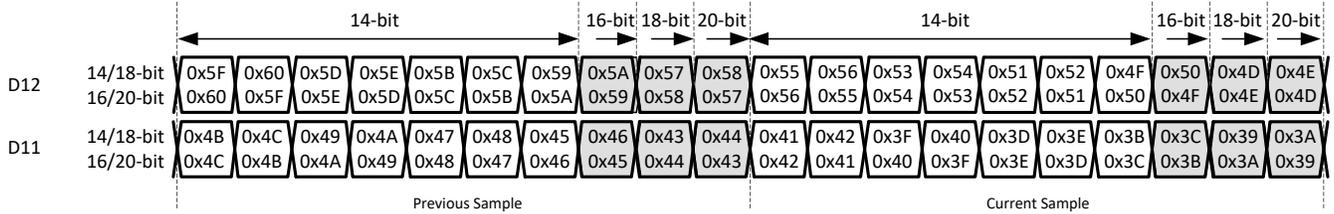

Figure 8-45. 2-wire output bit mapper
**2-wire mode:** in this mode both the current and the previous sample have to be used in the address space as shown in Figure 8-45 below. The address order is different for 14/18-bit and 16/20-bit. Note: there are unused addresses between samples for resolution less than 20-bit (grey back ground), which can be skipped if not used.